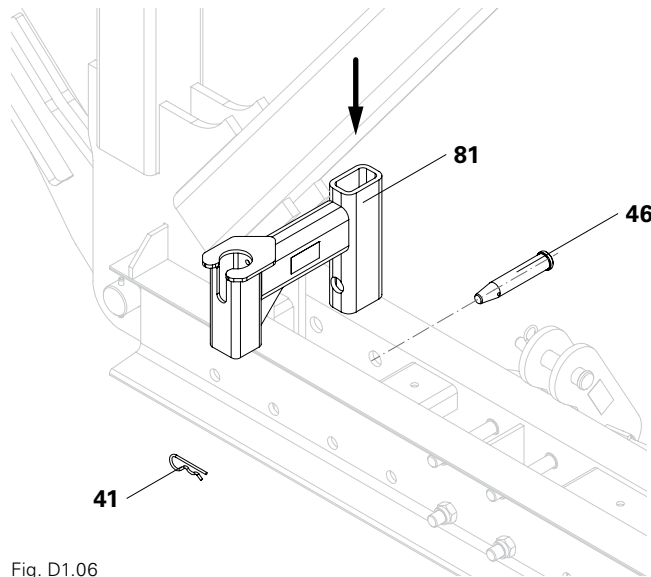

Fig. D1.06
1. At a distance of 40.8 cm, insert the Bracket Connector UP-VRB (81) between the two guardrails of the bottom chord.
2. Fit bolts (46) and secure with cotter pins (41). (Fig. D1.06)